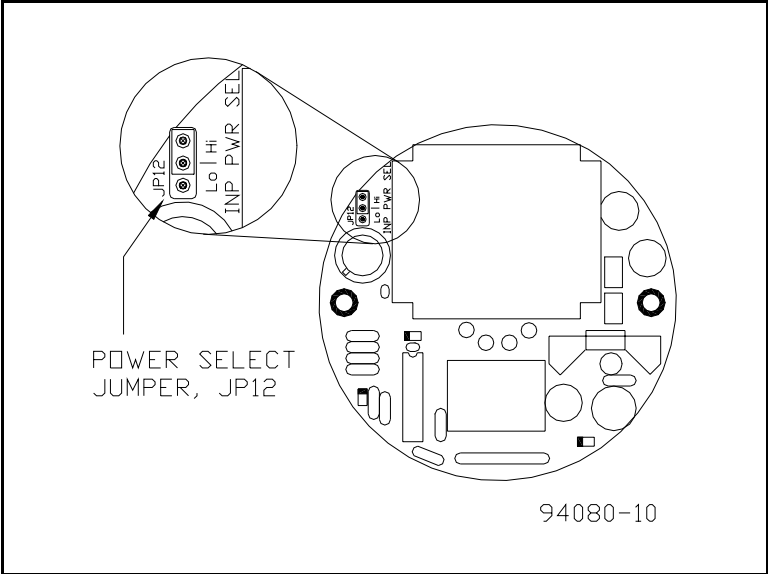

Figure 2. Input Power Selection Jumper Location
1. Power — The input power requirement is listed on the tag on the electronics enclosure; make sure the input power source is compatible. Available input power configurations are 24 Vdc, 24 Vac, 115 Vac, or 230 Vac. The Vac power is ½A, 50-60 Hz, single phase. The power configuration is pre-set at the factory, but may be changed in the field (except for 115 to 230 Vac conversions). To select either 24 Vac or high voltage (115 or 230 Vac), ensure that power has been disconnected. Then, remove the electronics module by removing the modular sensor interface connector and then by pulling the handle on the top printed wiring board (PWB). Using **Figure 2**, locate the power select jumper on the lower PWB and simply move the power select jumper to either the